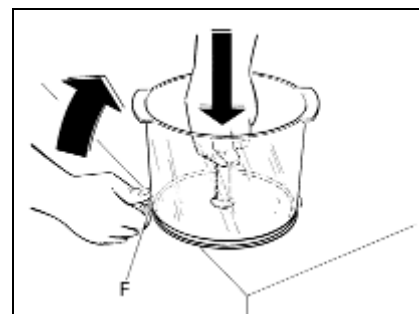

Fig. 4
- **P**lace the container (A) on a flat surface (fig. 4).